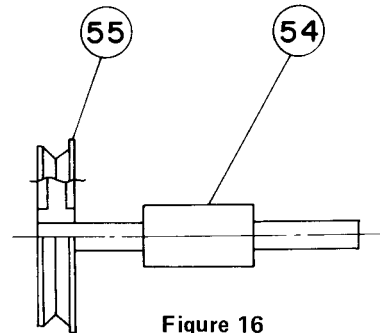

Figure 16
- (1) Pressing insert the Pulley "55" to the Worm Gear "54" so that the left end of the worm gear will be on the same level as the face of the smaller circle in the pulley as shown in Figure 16.